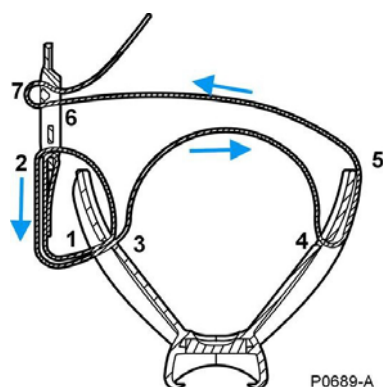

Figure 43: Lacing the Armstrap (View from Coil)
c. **To refit the armstrap use Figure 43 as a guide:**